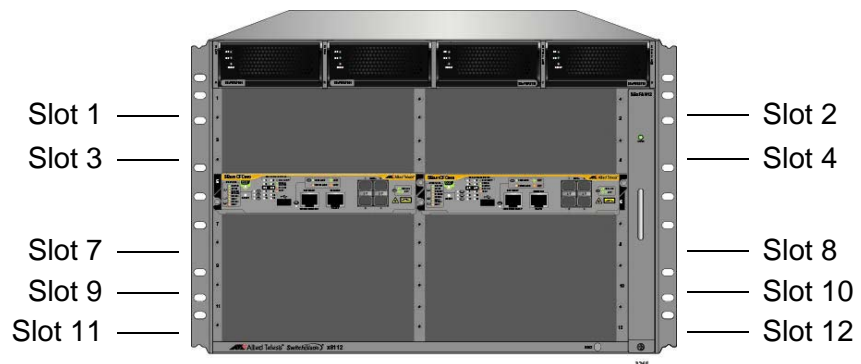

Figure 85. Slots 1 to 4 and 7 to 12 for the Ethernet Line Cards
1. Choose a slot in the chassis for the Ethernet line card. The Ethernet line cards may be installed in slots 1 to 4 and 7 to 12. The slots are shown in Figure 85.